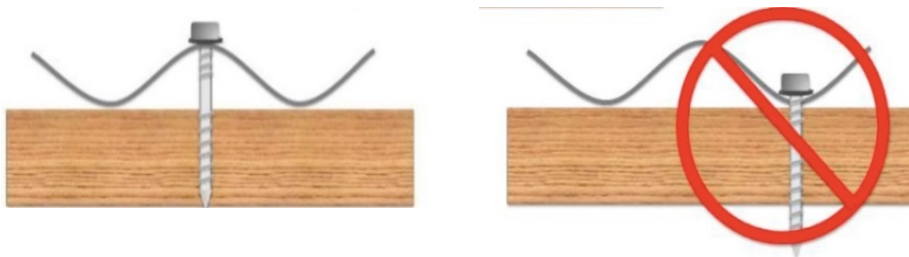

Figure 2
- Tilt the panel 10-15 degrees to allow rainwater to flow off the panel and to maximize sun exposure (see figure 2).
2. Drill four holes in the back of the Solar Suitcase outside of where the main control board will be reattached (Fig.2).